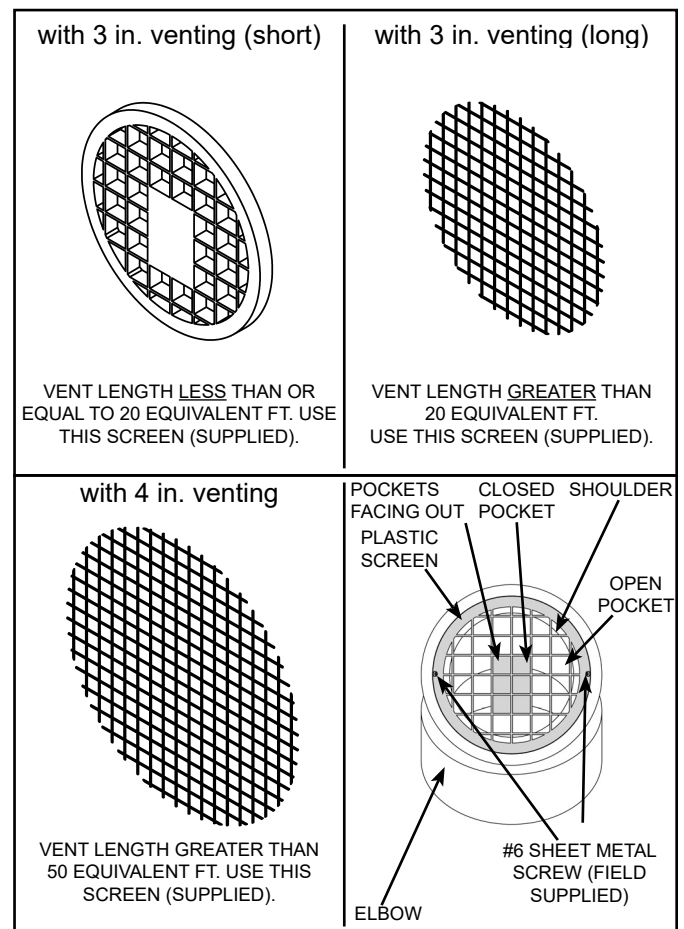

Figure 32.
4. Secure screen in place with screws (field supplied) (see Figure 32).
* see Figure 32, "Venting terminations and sizing" and "Vent screen installation".